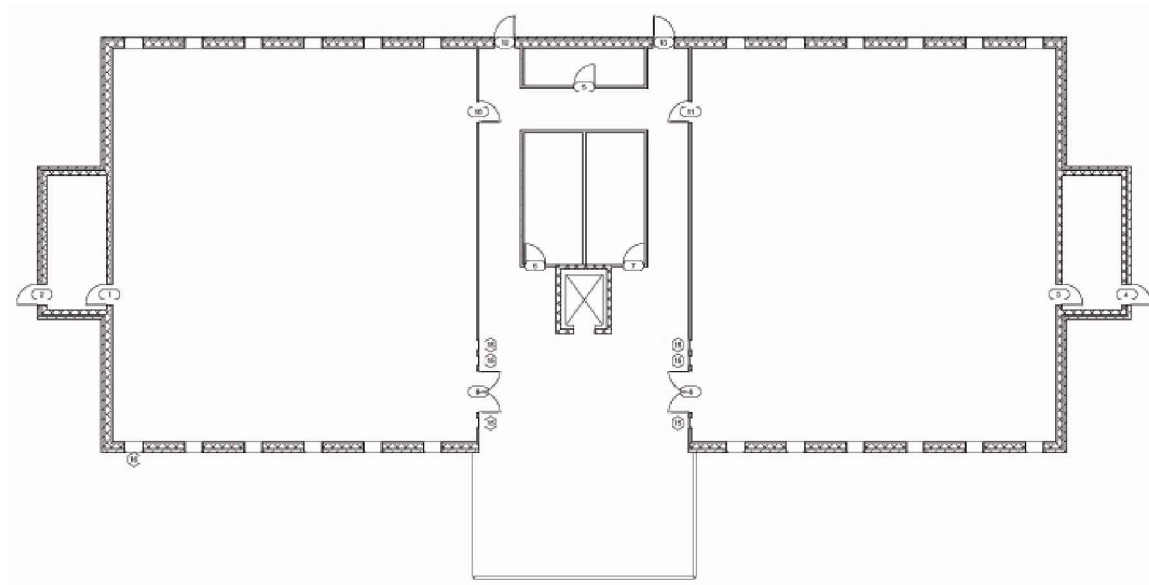

FIGURE 3-5.12 Completed window layout
22. Set the windows up on the three remaining walls of the first floor (Figure 3-5.12). Consider the following: